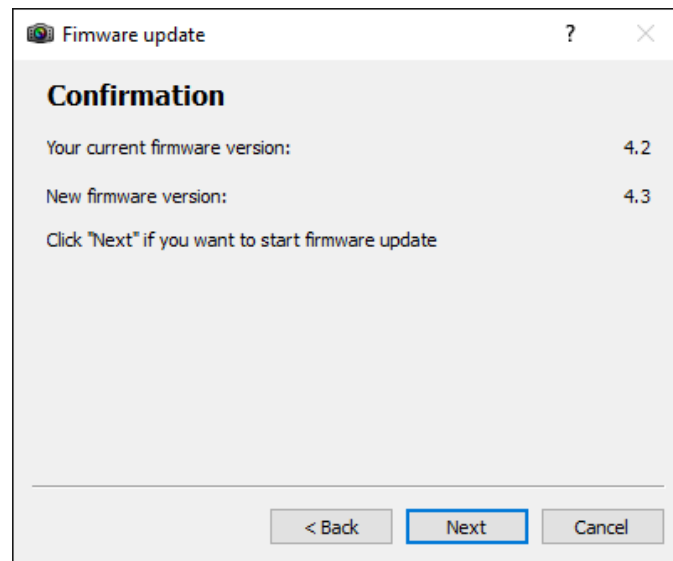

Figure 9 : Firmare Update Confirmation window
8. The next window will display both, current and new firmware, as shown in the Figure 9. By clicking the “Next >” button, the conformation is made and the firmware update will start immediately.